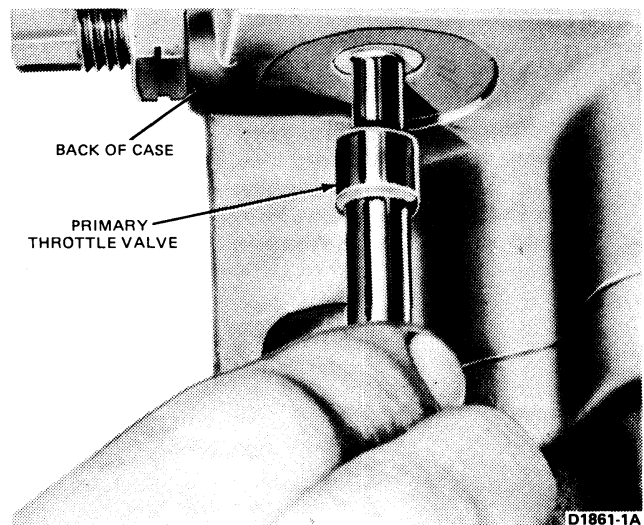

FIG. 12 Removing or Installing Primary Throttle Valve
3. Remove the primary throttle valve (Fig. 12) from the opening at the rear of the case.